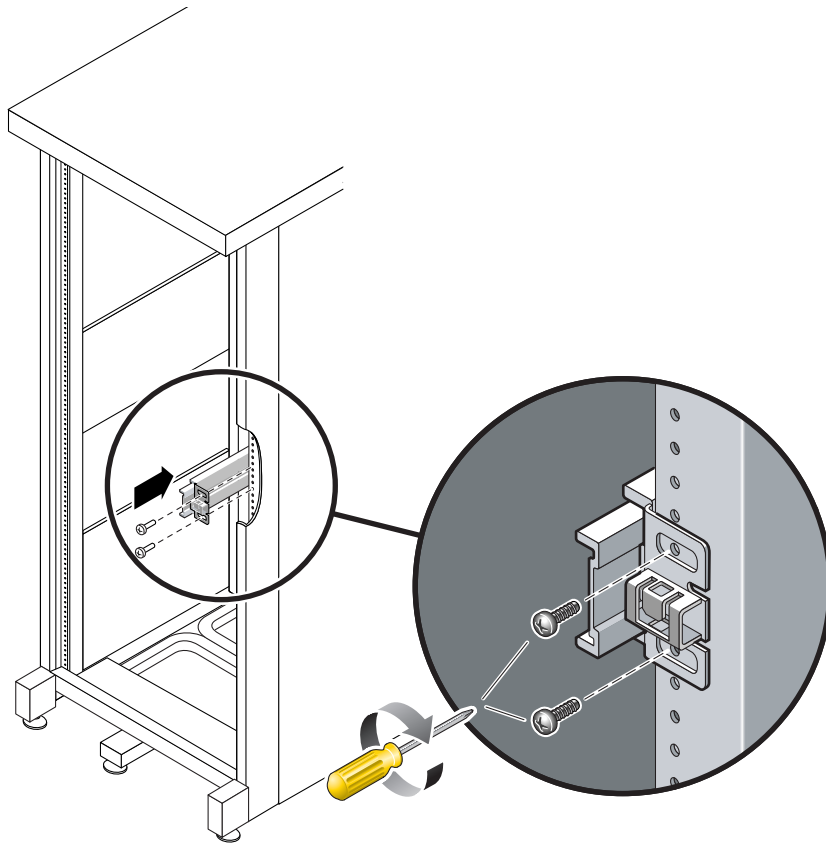

FIGURE 2-18 Mounting a Slide Rail
- a. Loosely attach the front of a slide rail to the right front rack post (FIGURE 2-18) using two screws.**